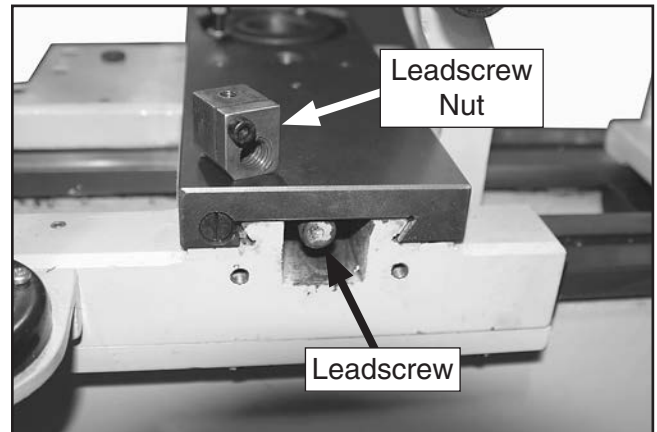

Figure 6. Leadscrew nut removed from cross slide leadscrew.
6. Rotate the cross slide handwheel clockwise until the leadscrew nut exits the rear of the cross slide and can be removed (see **Figure 6**).